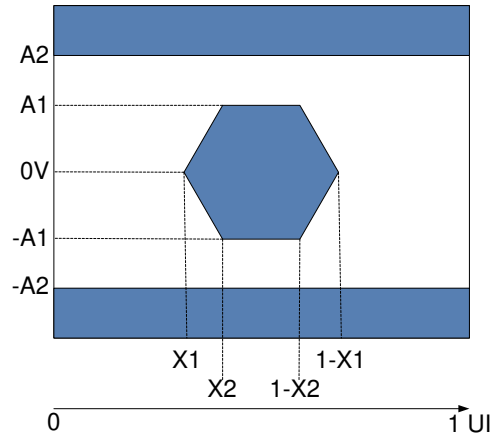

Figure 5-12. HSSI Eye Characteristics
- (1) All power supply connections are required to operate the DMD: V_{DD}, V_{DDA}, V_{OFFSET}, V_{BIAS}, and V_{RESET}. All V_{SS} connections are required to operate the DMD.
- (2) All voltage values are with respect to the ground pins (V_{SS}).
- (3) To prevent excess current, the supply voltage delta | V_{DDA} – V_{DD} | must be less than the specified limit.
- (4) To prevent excess current, the supply voltage delta | V_{BIAS} – V_{OFFSET} | must be less than the specified limit.
- (5) Supply power dissipation based on three global resets in 200μs.
- (6) LVC MOS input specifications are for pin DMD_DEN_ARSTZ.
- (7) LVC MOS output specification is for pins LS_RDATA_A and LS_RDATA_B.
- (8) Refer to Figure 5-12, Receiver Eye Mask (1e-12 BER).
- (9) Defined in Equation 3 and Equation 4.